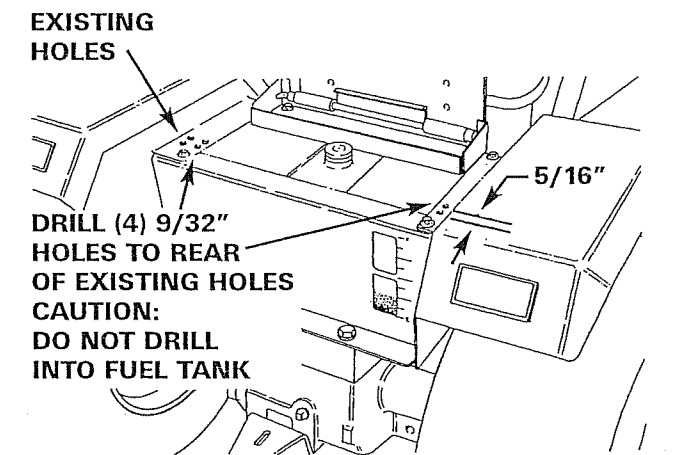

FIGURE 2
**NOTE:** Early production tractors did not have slots, or a second set of holes to allow easy mounting of work tube clamps. See figure 2 and add holes if necessary.